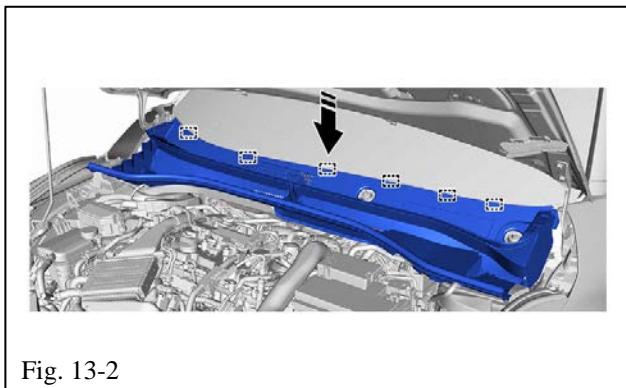

Fig. 13-2
- (b) Engage the guides to install the cowl top ventilator louver sub-assembly as shown in the illustration (Fig. 13-2).